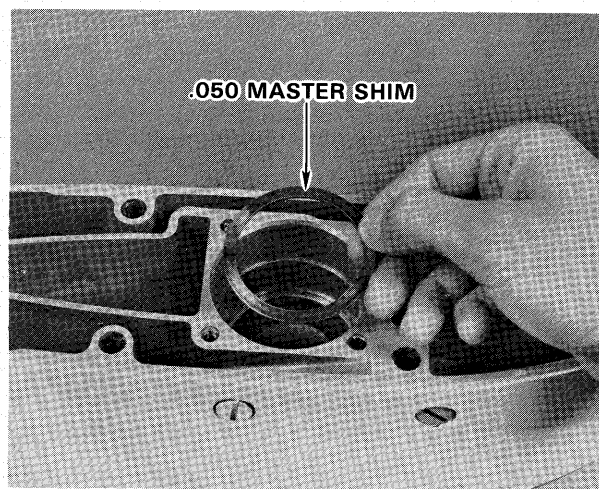

Figure 22—Installing Master Shim
- B. Place .050 master shim (part of T8997 shimming tool set) in counterbore in gear housing where original shims were removed from. See figure 22.